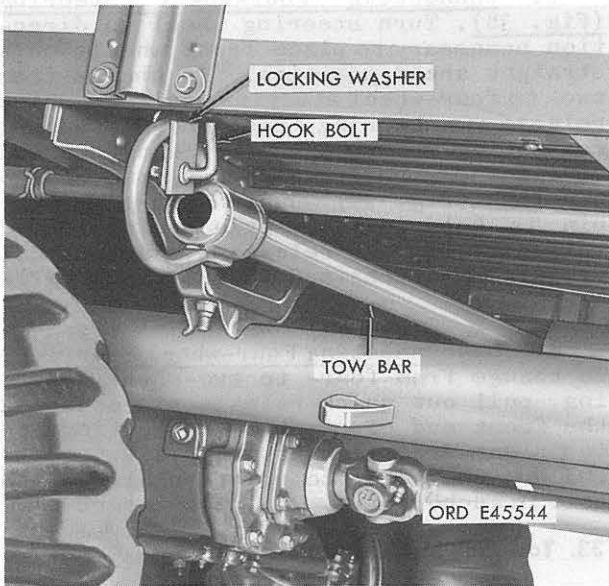
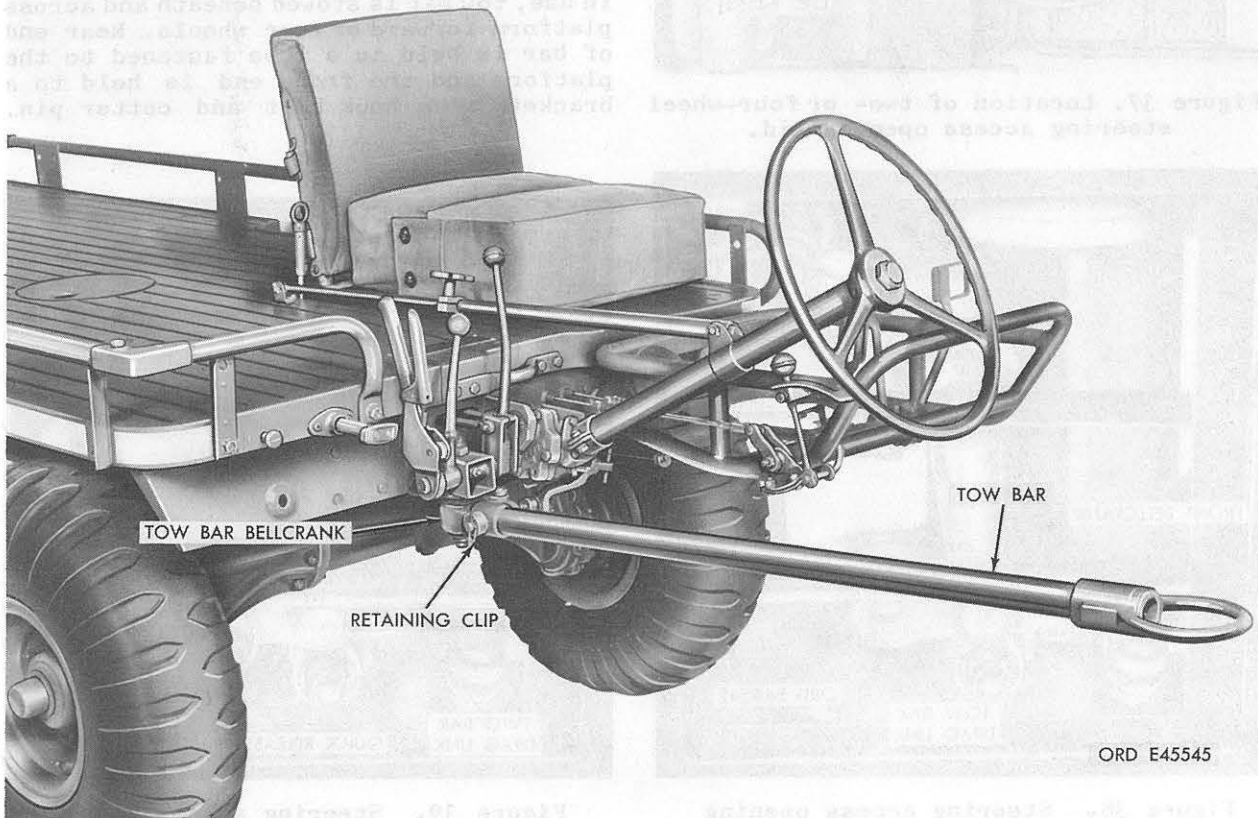

Figure 40. Tow bar stowed under platform.
Figure 41. Tow bar connected for towing vehicle.
a. General. The tow bar (fig. 40) is used as a tongue when the vehicle requires towing or is used as a trailer. When not in use, tow bar is stowed beneath and across platform forward of rear wheels. Rear end of bar is held in a tube fastened to the platform and the front end is held to a bracket by a hook bolt and cotter pin.
b. Installation. To install tow bar in towing position on tow bar bellcrank, loosen hook bolt (fig. 40), turn locking washer 180 degrees, and pull tow bar from beneath platform. Tighten hook bolt on
washer. Remove retaining clip from headed straight pin (fig. 41) in tow bar bellcrank and remove pin. Position tow bar on tow bar bellcrank as shown in figure 41. Push headed straight pin through tow bar and bellcrank and secure with retaining clip.
c. Stowage. To stow tow bar, remove retaining clip from headed straight pin (fig. 41) securing tow bar on tow bar bellcrank and remove pin and tow bar. Install pin in bellcrank and secure with retaining clip. Loosen tow bar hook bolt (fig. 40) and turn locking washer so long end is down. Slide rear end of tow bar into tube under left side of platform, position loop of tow bar on bracket under right side of platform, turn long end of locking washer up against loop, and tighten hook bolt.